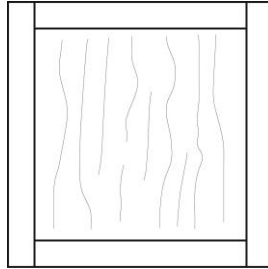

Figure 5. Panel door
5. Figure 5 shows a small panel door for a cupboard. The frame is 19 mm thick and is grooved to receive a plywood panel.